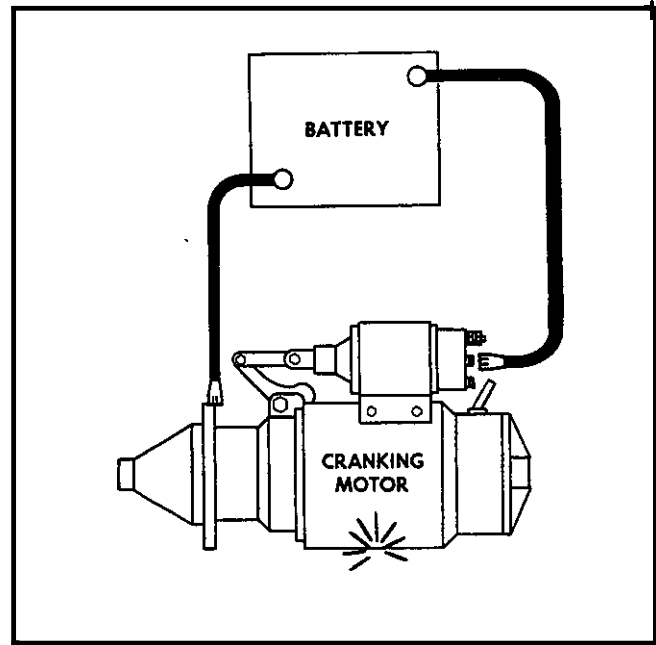

Fig. 133-Connections for Checking Pinion Clearance
2. Connect a battery of **24** volts, from the solenoid switch terminal to the solenoid frame. (Fig. 133).